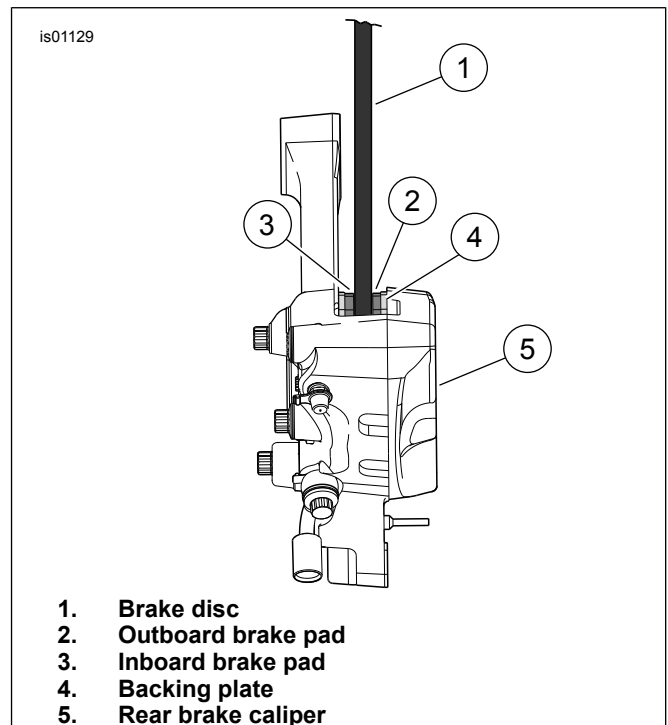

Figure 1. Brake Pad Inspection
See Figure 1. Replace brake pads (2, 3) if brake pad friction material on the front caliper (5) is worn to 0.04 inch (1 mm) or less above the backing plate (4). Always replace both pads in a caliper as a set.